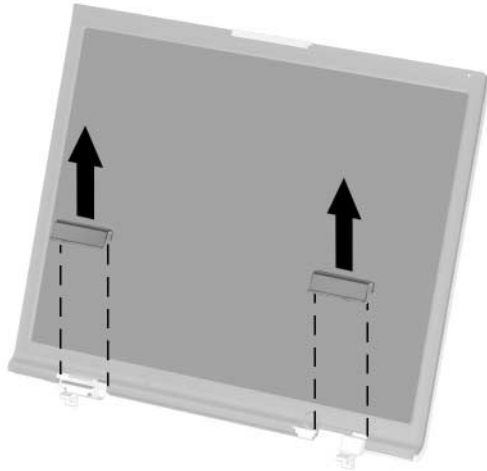

Figure 5-20. Removing the Hinge Covers
9. Remove the hinge covers from the display (Figure 5-20).